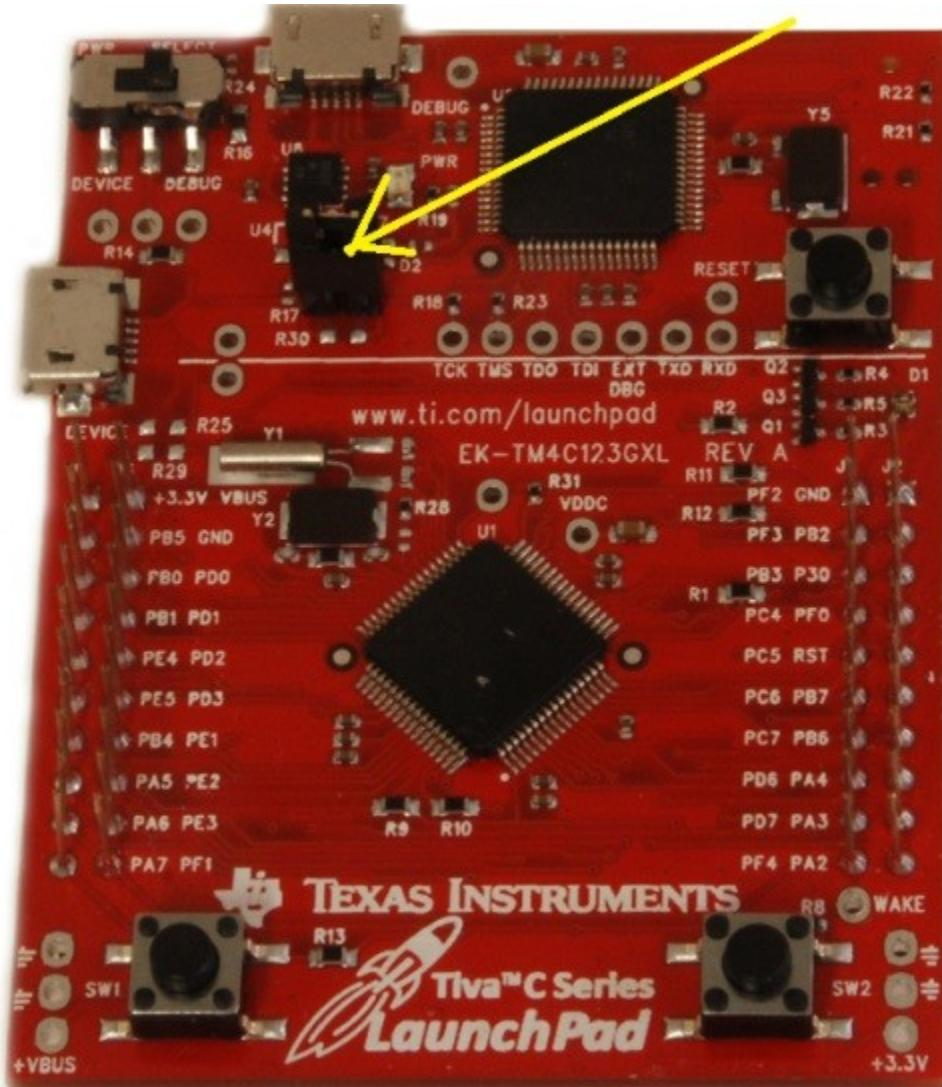

Figure 3.4. Use a current meter to measure current required to run the clock.
4. Measure the 3.3V supply current. Remove the jumper on the LaunchPad (see Figure 3.4) and connect a DC current meter across the pins. Double check the connections before turning it on. If you are at all unsure about this measurement, ask your TA for help. Measure the required current to run the alarm clock. Take a measurement with and without the alarm sounding. Remember these numbers; they will be valuable when you design your project in Labs 6 and 7.